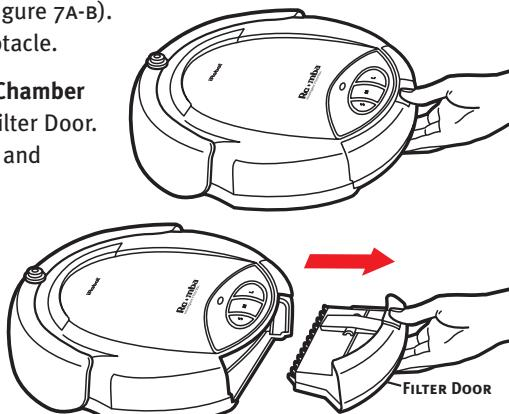

FIGURE 7A-B: EMPTYING ROOMBA'S PARTICLE BIN.
2. Press down on the Particle Bin's Release Tab while simultaneously pulling the Particle Bin straight back. (Figure 7A-B).
PRESS THE RELEASE TAB (FIGURE 7A) AND PULL THE
2. Press down on the Particle Bin's Release Tab while simultaneously pulling the Particle Bin straight back (see Figure 7A-B).